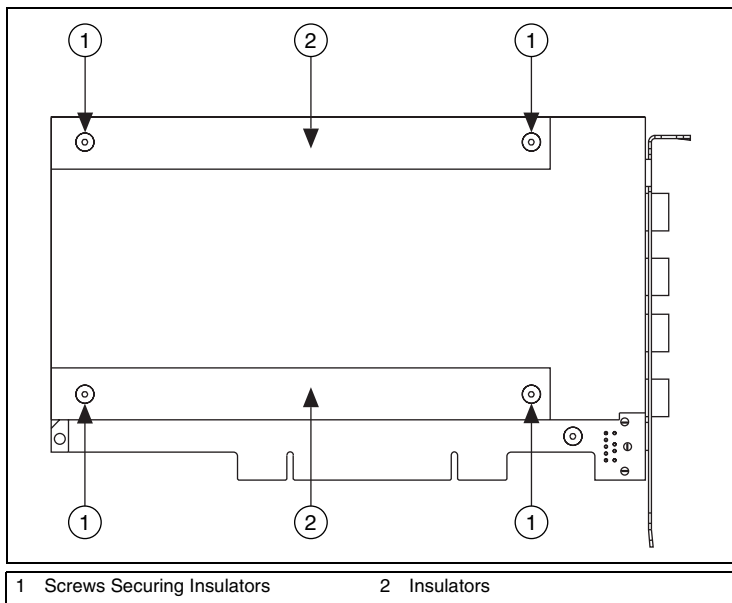

Figure 16. Removing the Insulators from the NI PCI-4060
3. Remove the four screws that secure the top and bottom insulators onto the device, as shown in Figure 16.